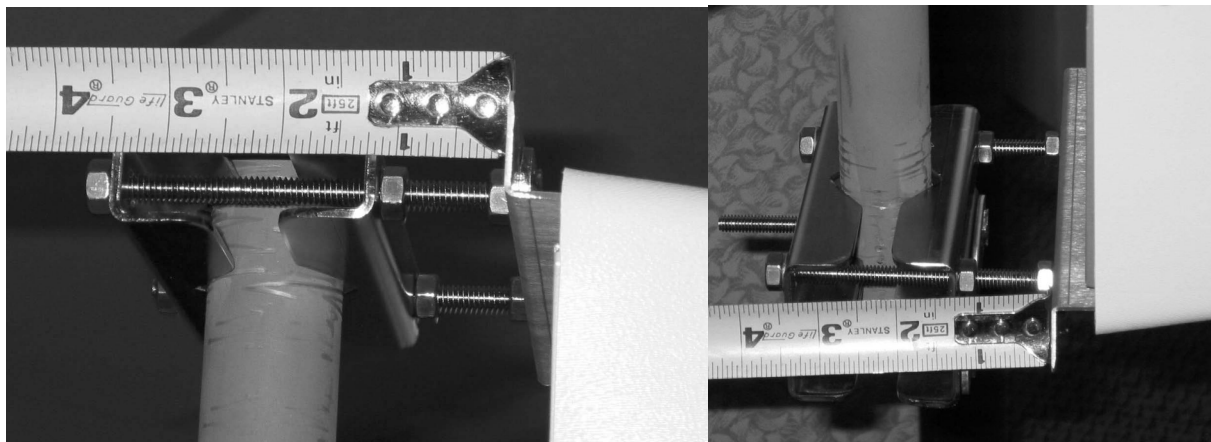

Figure 4-2: Mast Mount Kit Bracket Offset
3. Adjust the down tilt of the Hub by increasing the gap between the Hub and the bracket at the top and decreasing the gap between the Hub and the bracket at the bottom as show in Figure 4-2.